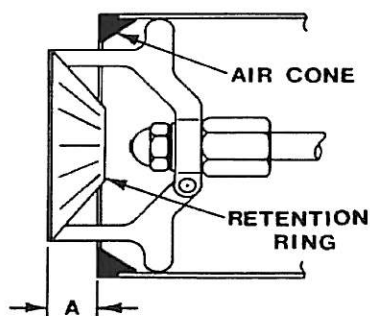

Figure 5-6. Burner Head Adjustment
- Adjusting free opening (dimension "A" in Figure 5-6) between air cone and retention ring (15) located at end of burner tube.
**5.9.3.3 Retention Ring and Air Shutter Adjustments.** Retention ring position ahead of air cone is adjustable from zero (flush) to 1-1/8 inches (Dimension "A" in Figures 5-6 and 5-7). Adjust retention ring and air shutter using the following procedures.
- Set air shutter and retention ring position for operational altitude. If fire is a little too rich, move combustion head forward by increasing dimension "A" shown in Figures 5-6 and 5-7. A very slight change is usually enough. Run a smoke test (paragraph 5.9.14). The combustion mixture should be a little on the rich side to ensure a safe and secure ignition. On smoke tester scale, aim for between zero and 1.